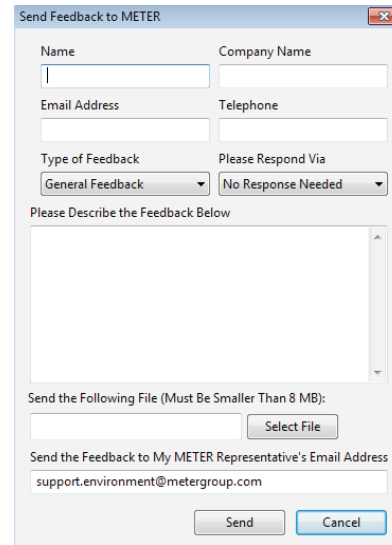

Figure 18 Send Feedback to METER Group window
- **Send Feedback to METER:** Sends product feedback, bug reports, or feature requests to METER when connected to the internet (Figure 18).